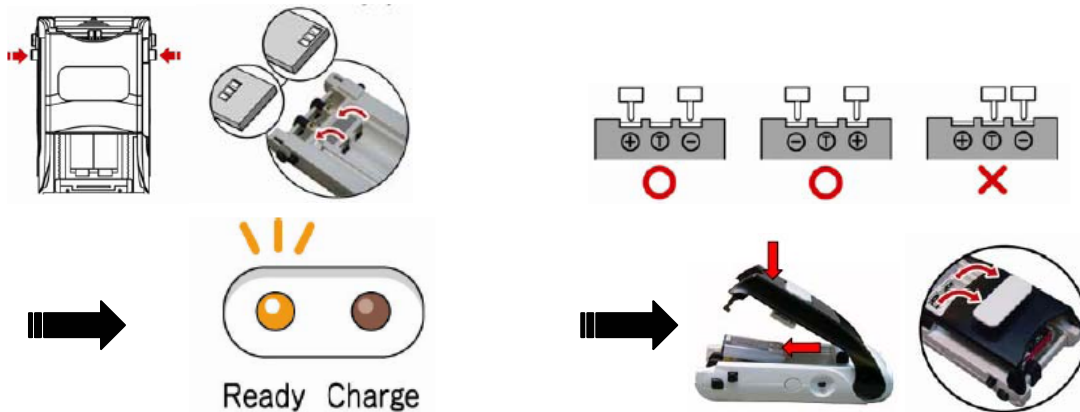

Fig. 2.2
Adjust the spring contactors pointing up (vertically) by pressing both sides of “Angle stop releasing knob” (4), make contact with the battery charging connections until the “Ready” LED indicator (9) turns on, then affix the battery by using upper cover (8). (Fig. 2.2)